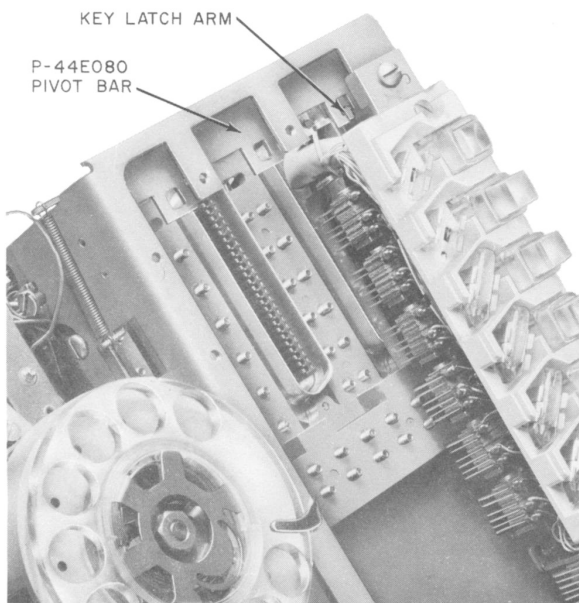

Fig. 11—Pivot Bar Top View (Current Production)
3.04 When an operated pickup key does not remain depressed or release any previously operated key on current sets (Fig. 11):